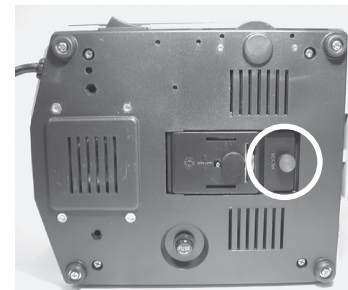

Figure 15
- 2 Carefully lay the microscope on its side to locate the light bulb access door on the bottom of the microscope (see Figure 15).
- 3 To open the door, unscrew the knob (circled in figure 15) and pull outward.